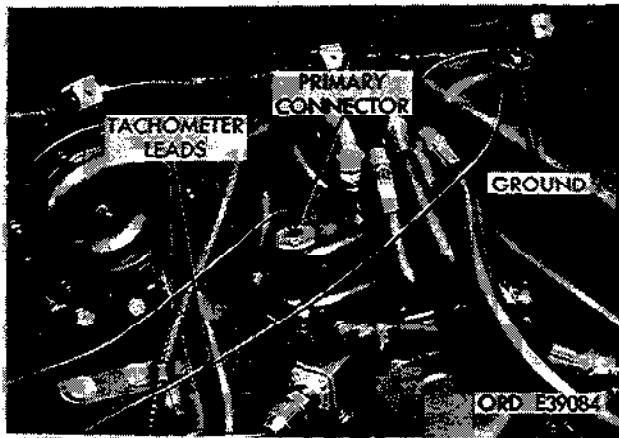

Figure 2-162. Attach tachometer.
(3) Attach tachometer to primary connector and ground (fig. 2-162). Adjust engine idle to 450 to 500 rpm.